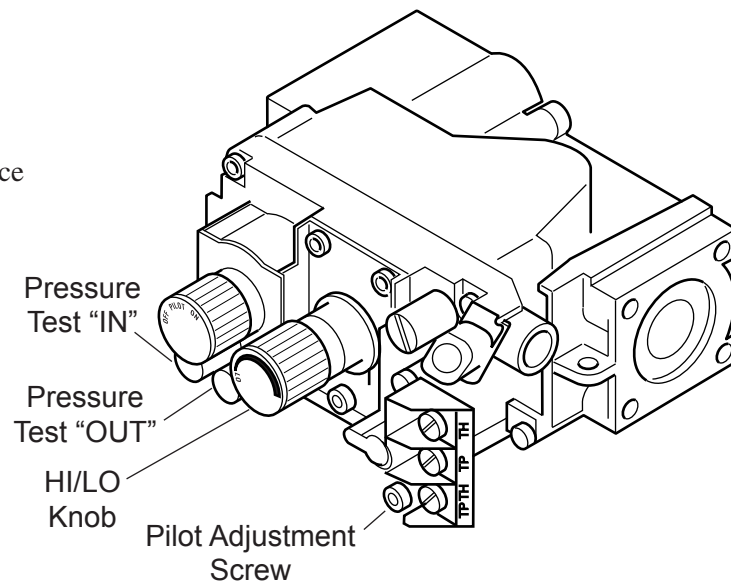

Figure 13 - Gas Pressure Check at Gas Valve
5. To check gas pressures at valve, turn captured screw counter clockwise 2 or 3 turns and then place tubing to pressure gauge over test point. Turn unit to high. *See Figure 13.* After taking pressure reading, be sure and turn captured screw clockwise firmly to reseal. Do not over torque. Check test points for gas leaks with a soap and water solution.